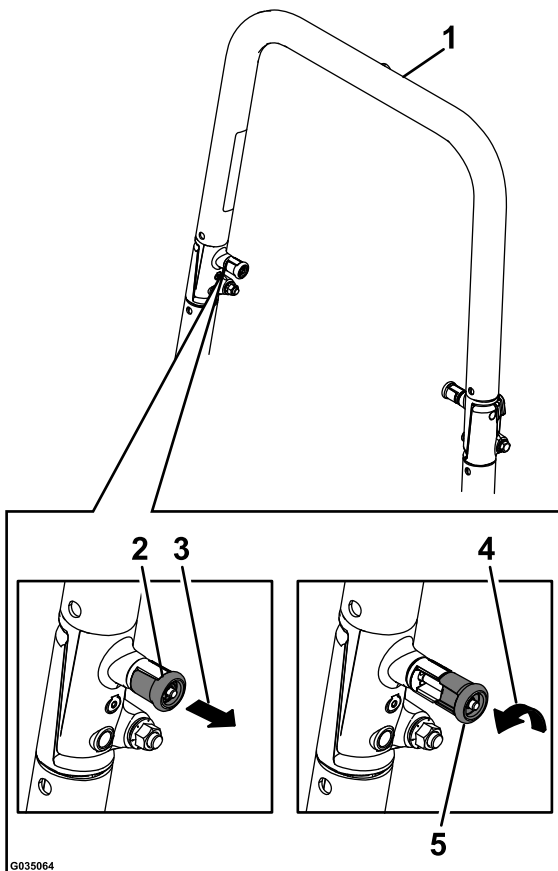

Figure 3
1. Pull both knobs out and rotate them 90 degrees so that they are not engaged (Figure 3).
2. Raise the roll bar to the operating position and rotate the knobs until they move partially into the grooves (Figure 3).
4. Push on the roll bar and ensure that both pins are engaged (Figure 3).